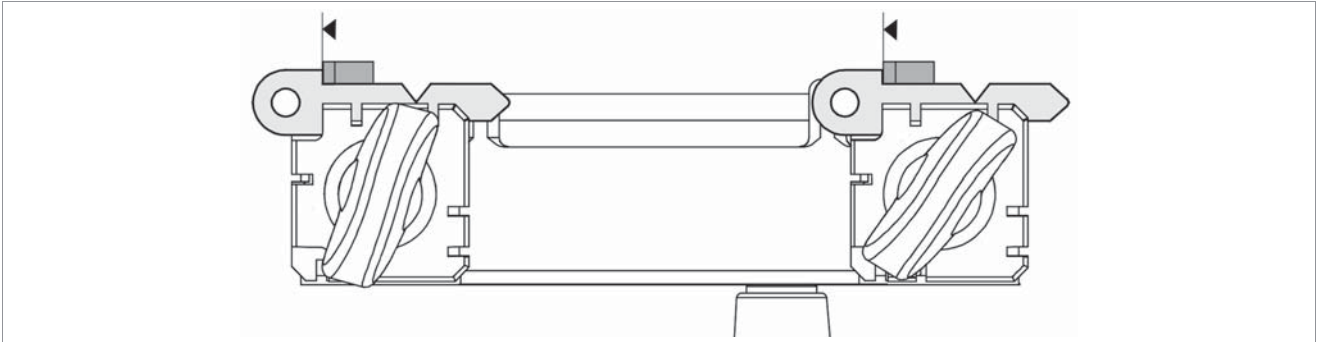

Fig. 16
- 2) Place the adjustment keys (provided) on the clamps (Fig. 16).
- 4) Turn the shoulder gauge rod towards the operator so that the gauges (Q1) are in contact with the adjusting plates (Fig. 16).